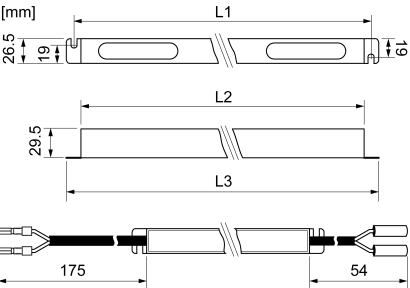

Figure 3: Dimensioned drawing
- Prepare boreholes in the groove for the fastening of the light inserts. Observe dimensioned drawing for the distance of the boreholes (Figure 3).